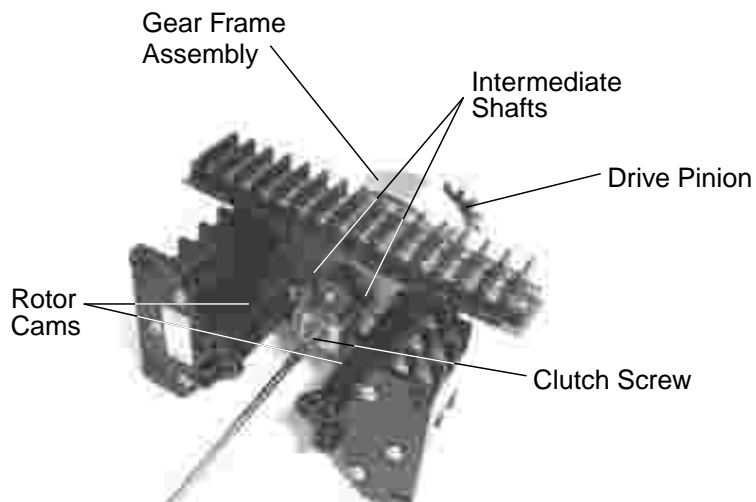

Figure 13 - L120-85 Limit Switch Components
- The cross-slotted Intermediate Shafts A, B, C and D have been designed for use with a 6" No. 2 Phillips screw driver shank chucked into a variable speed reversible electric drill. (See figure 13 for Limit Switch components).
3. Turn the Handwheel CCW ↺ to move the valve to the full OPEN position. While turning the Handwheel, note the direction of the Intermediate Shaft that corresponds to the Open Rotor Group. (See figure 13).
5. Push in Clutch Screw and turn CW ↻ one quarter turn to latch in a depressed position. See figure 13 for Limit Switch nomenclature.